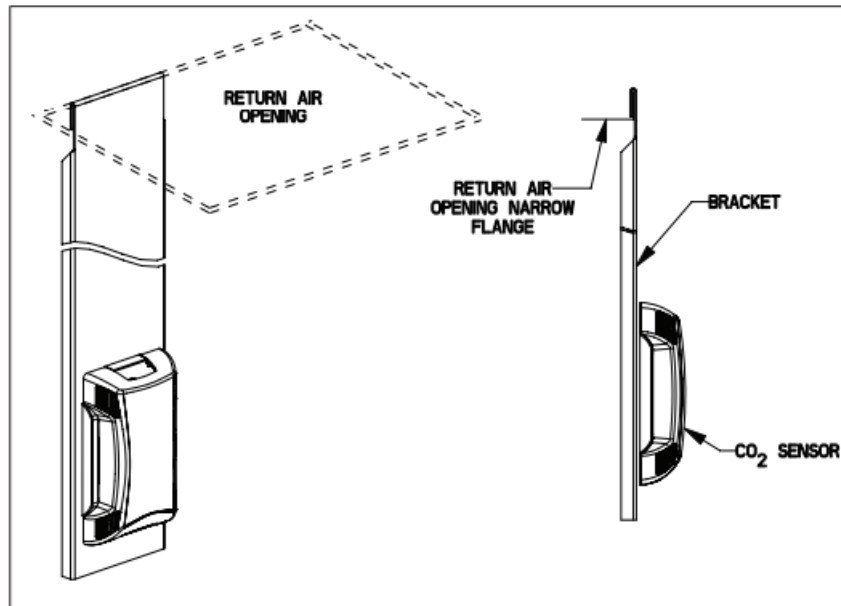

**Figure 1. Sensor Mounting Base**
3. Align baseplate on the bracket as shown in figure 1 and secure with two thread forming screws.